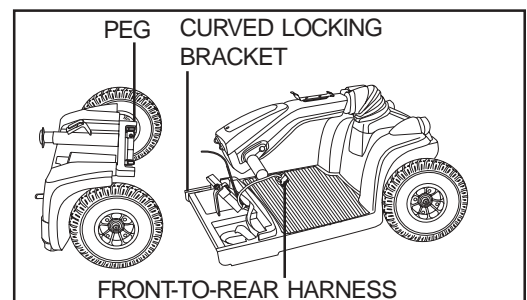

Figure 19. Frame Sections
1. Position the front and rear sections of your PMV as shown in figure 19.
2. Align the lower slots of the front section with the corresponding pegs on the front of the rear section. See figure 19.
WARNING! Position the front-to-rear harness so it won't become pinched between the frame halves when pivoting the rear section forward. See figure 19.